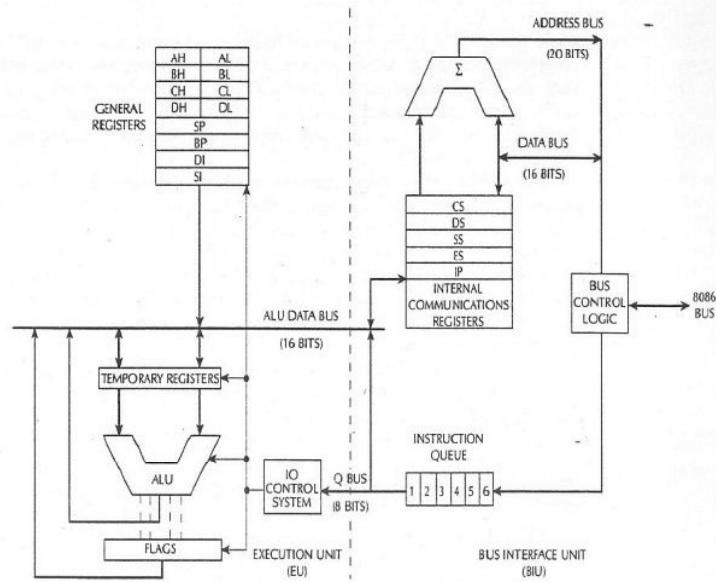

FIGURE 3.1 Internal architecture of the 8086.
Figure 3.1 shows a block diagram of the 8086 internal architecture. As shown in the figure, the 8086 microprocessor is internally divided into two separate functional units. These are the Bus Interface Unit (BIU) and the Execution Unit (EU). The BIU fetches instructions, reads data from memory and ports, and writes data to memory and I/O ports. The EU executes instructions that have already been fetched by the BIU. The BIU and EU function independently. The BIU interfaces the 8086 to the